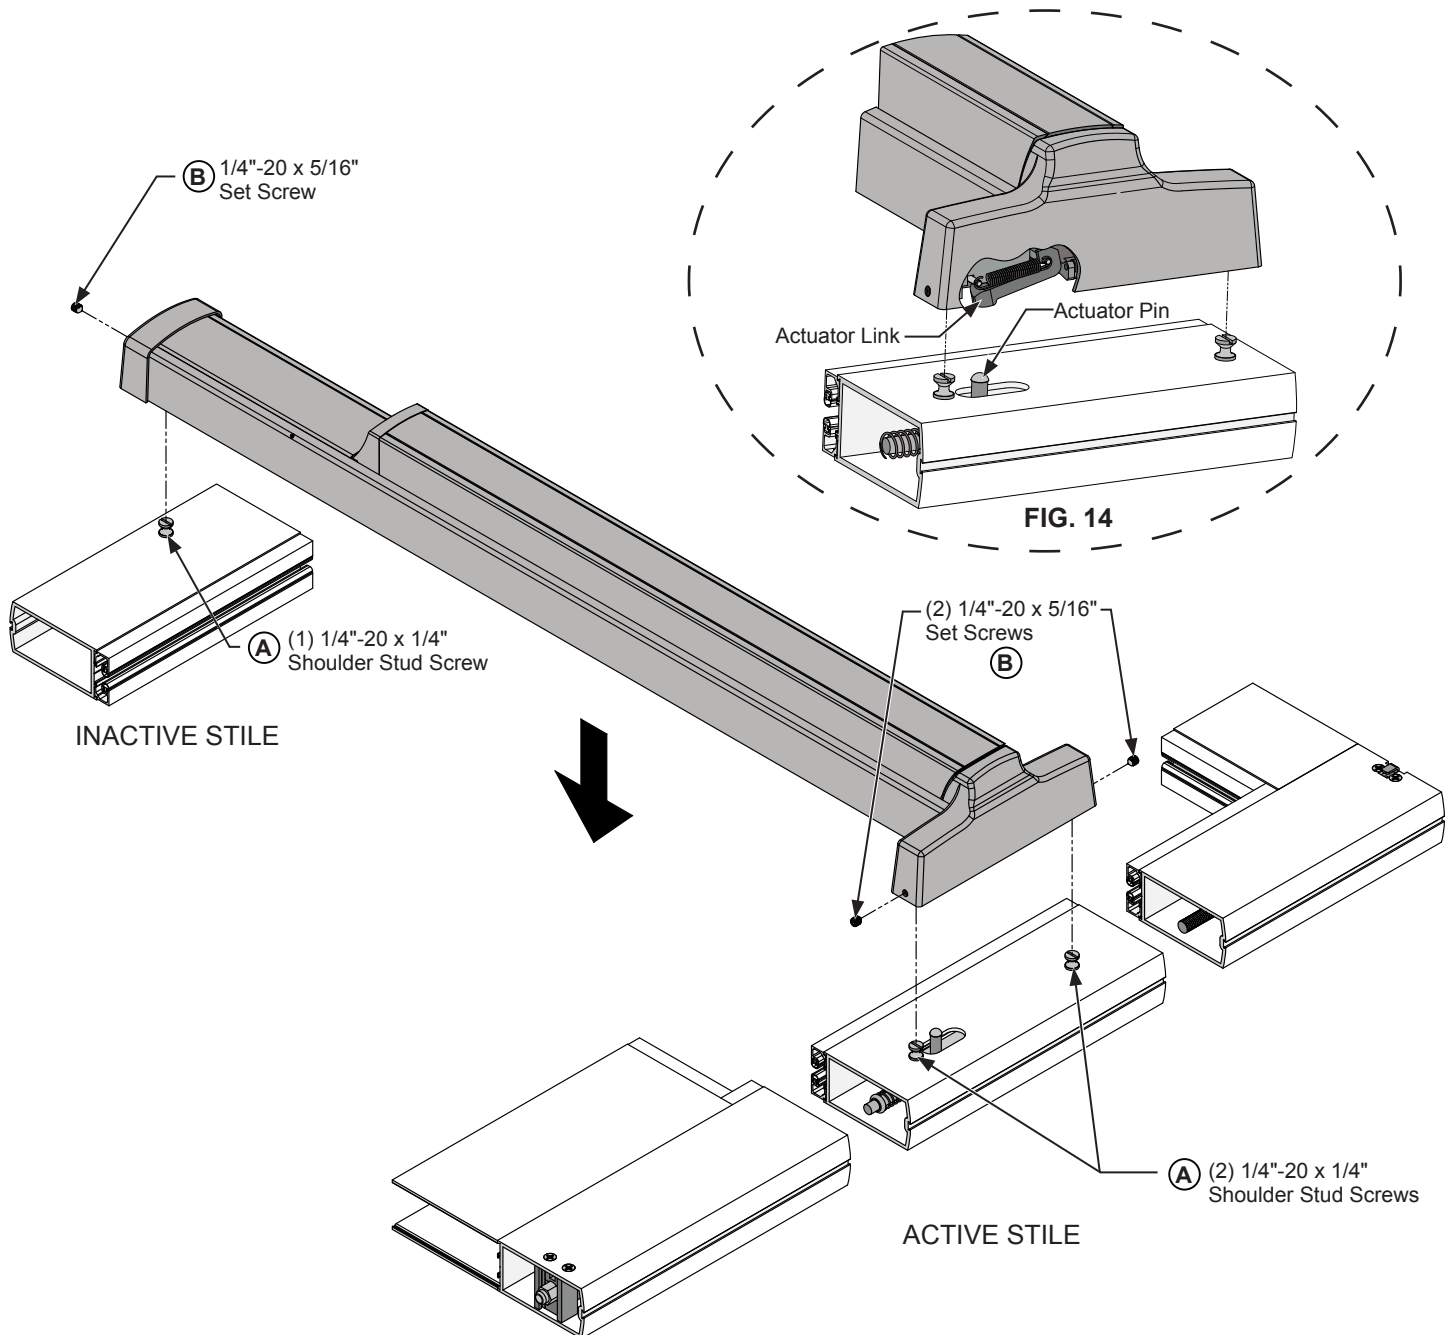

FIG. 15
2. Tighten (B) (3) set screws on each side of the door stiles. (Fig. 15)